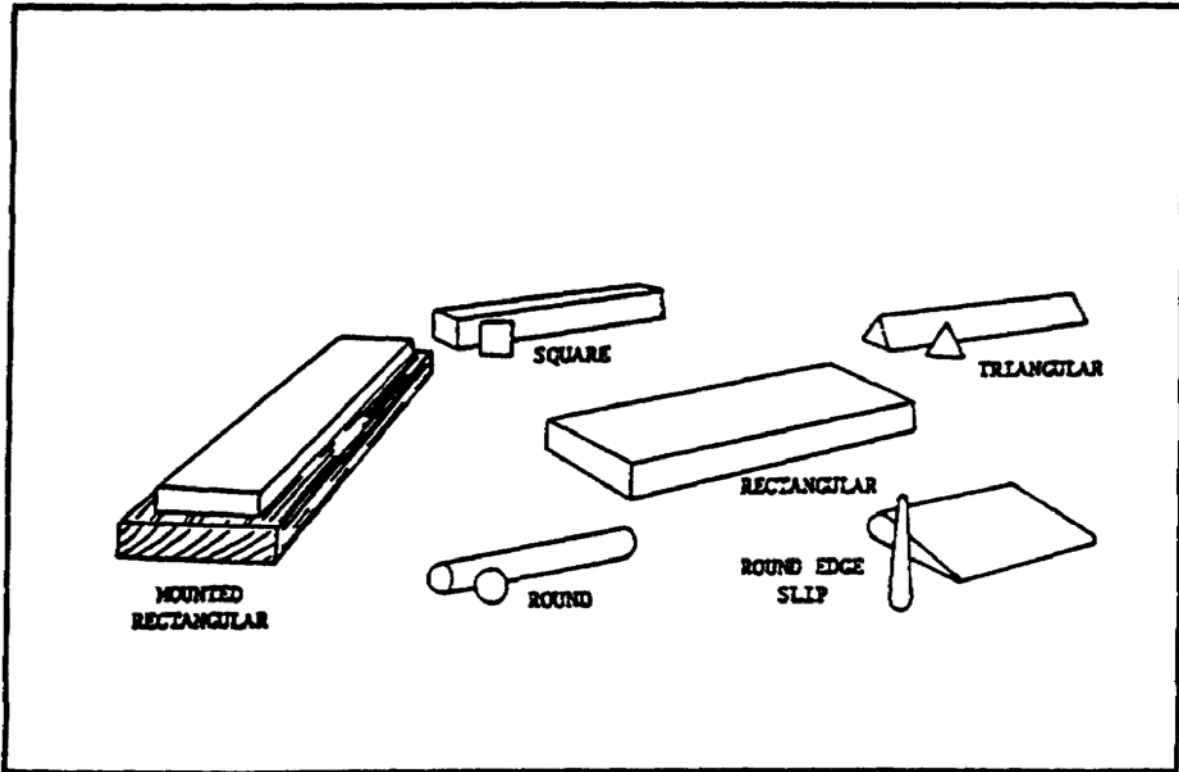

FIGURE 63. SHAPES OF SHARPENING STONES AND OILSTONES.
c. *Types of Sharpening Stones and Oilstones*. Sharpening stones and oilstones are natural or artificial stones. Most sharpening stones have one coarse and one fine face and are normally made of silicon carbide, aluminum oxide, or natural stone. Natural oilstones have a very fine grain and are excellent for putting razor-like edges on fine cutting tools. Some stones are mounted and the working face of some of the sharpening stones is a combination of coarse and fine grains. Stones are available in a variety of shapes, as shown in figure 63.
e. *Using Sharpening Stones and Oilstones.* Sharpening stones and oilstones (figure 63) are used with a fine oil, sometimes with kerosene, and in some cases are used dry. When a tool has been sharpened on a grinder or grindstone, there is usually a wire edge or a feather edge left by the coarse wheel. The sharpening stones and oilstones are used to hone this wire or feather edge off the cutting edge of the tool. Do not attempt to do a honing job with the wrong stone. Use a coarse stone to sharpen large and very dull or nicked tools. Use a medium grain stone to sharpen tools not requiring a finished edge, such as tools for working soft wood, cloth, leather, and rubber. Use a fine stone and an oilstone to sharpen and hone tools requiring a razor edge.